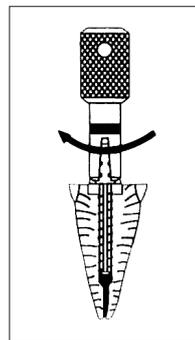

Fig. 4
h) Cement post with phosphate cement or self curing composite (Fig 4)